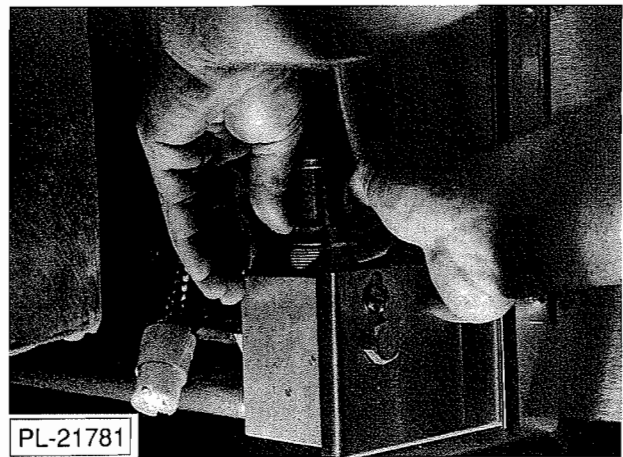

Fig. 27
- C. Make certain that O-ring of kettle pressure regulator assembly is well seated in the solenoid block (Fig. 27).